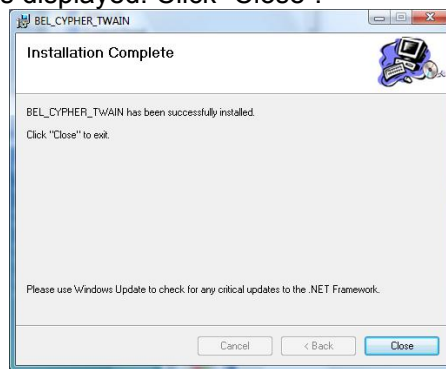

Fig 8 Installation Complete screen
10) The dialogue such like Fig 8 is displayed. Click "Close".